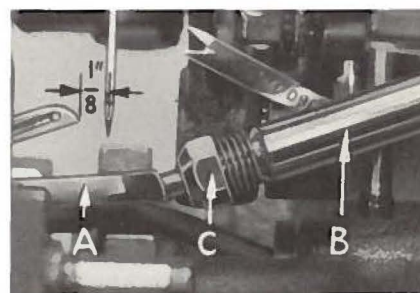
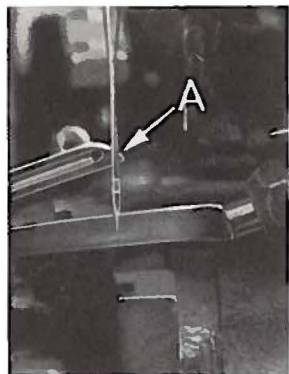

Fig. 5
Fig. 7
At this point, insert lower looper (A, Fig. 5) into bar (B). With lower looper at the left end of its stroke, set looper point $1/8$ inch from center of needle (Fig. 5), using looper gauge No. 21225 - $1/8$. Do not have lower looper deflecting needle. Tighten nut (C). Now assemble differential (front) feed dog.
Now finish lower looper adjustment. As lower looper moves to the right, its point should be set into the needle scarf (A, Fig. 7) until the needle springs forward from rear needle guard surface another .002-.004 inch. Tighten nut (C, Fig. 5) securely.